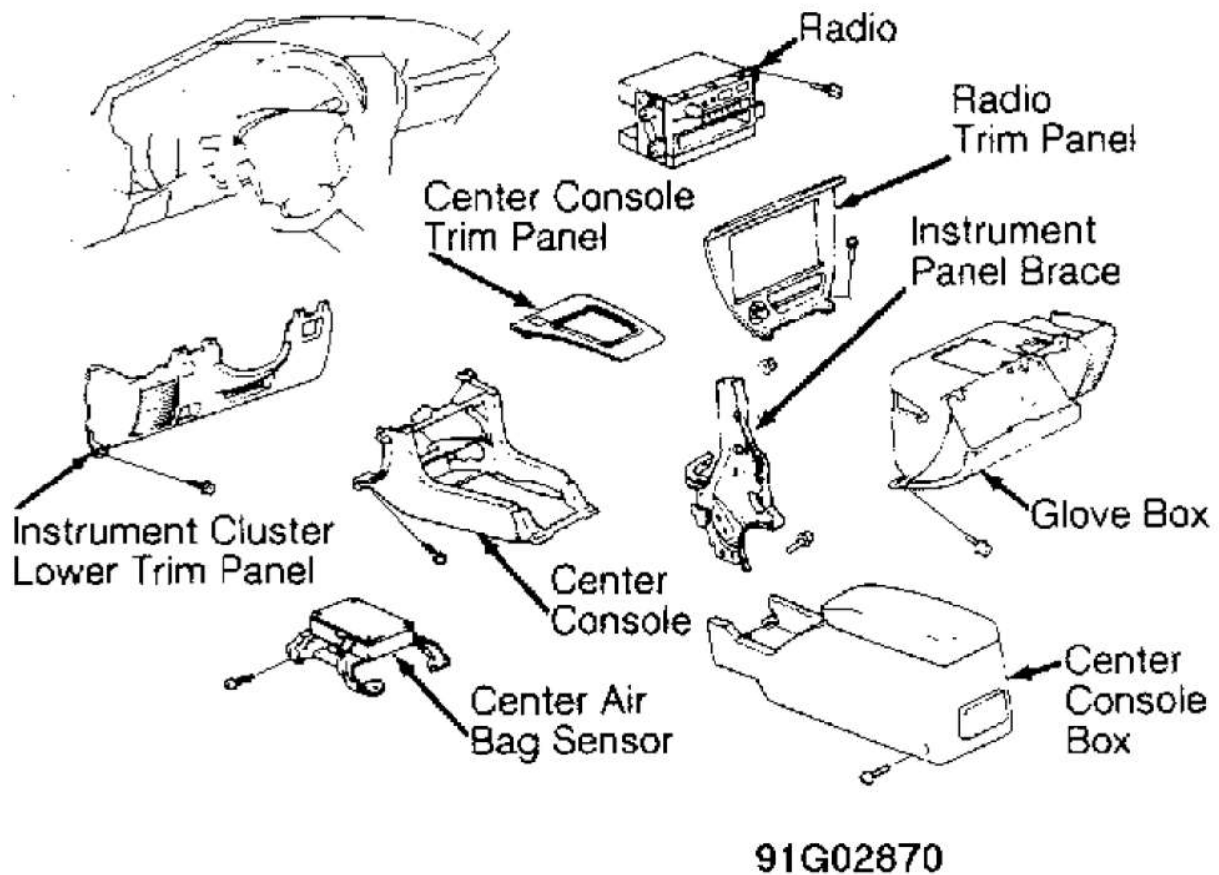

Fig. 4: Removing Center Air Bag Sensor Assembly
2) Center air bag sensor is located underneath console. Remove center console trim panel. See Fig. 4. Remove 4 screw covers from sides of center console box. Remove 4 center console screws and 2 bolts. Remove center console box.
4) Remove 2 screws and radio trim panel. Remove 4 screws and radio. Remove screw covers and 4 screws from center console. Remove instrument panel brace. See Fig. 4. Disconnect center air bag sensor assembly electrical connector. Remove 4 screws and center air bag sensor assembly.